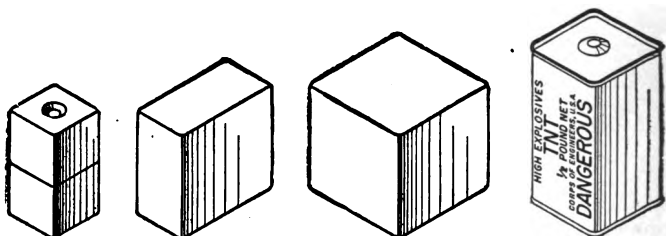

FIGURE 81.—Packages of nitrostarch, and TNT; $\frac{1}{4}$ -, $\frac{1}{2}$ -, and 1-pound packages of nitrostarch, and $\frac{1}{2}$ -pound block of TNT.
■ 47. EXPLOSIVES.—*a. TNT.*—(1) TNT (trinitrotoluene) is the standard explosive for Army use. It is issued in ½-pound blocks encased in a cardboard container closed at both ends with lacquered tin (fig. 81). One end of each block has a cylindrical hole, approximately $\frac{5}{16}$ inch in diameter and $2\frac{1}{8}$ inches long, for receiving the cap.